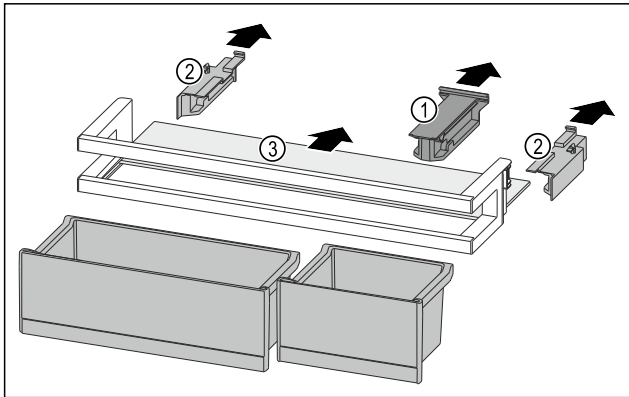

Fig. 198
- ▶ Pull off the holding part Fig. 198 (1).
- ▶ Pull off the side parts Fig. 198 (2).
- ▶ Remove the shelf Fig. 198 (3).